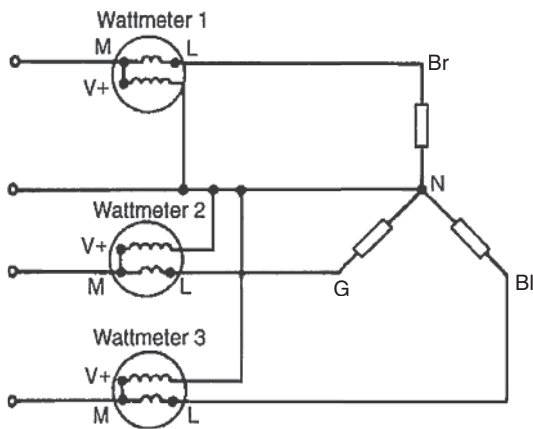

Figure 23.14
- (iii) **Three-wattmeter method for a three-phase, four-wire system for balanced and unbalanced loads** (see Fig. 23.14).